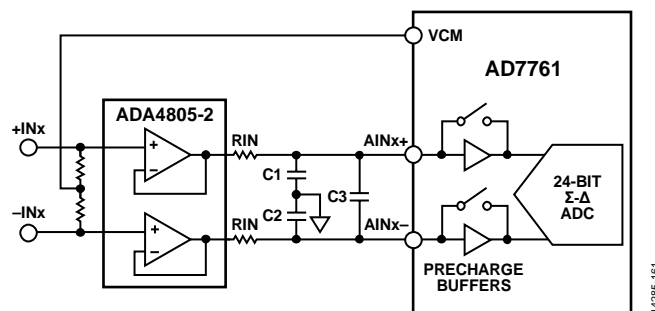

Figure 61. Typical Input Structure for an RC Network
There is a resistor/capacitor (RC) network between the amplifier output and the ADC input. Figure 61 shows a typical RC network used for the AD7761 for most amplifier pairings. The RC network performs a variety of tasks. C1 and C2 are charge reservoirs to the ADC, providing the ADC with fast charge current to the sampling capacitors.